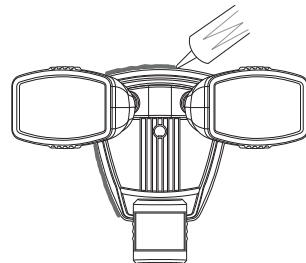

Figure 6
- Caulk around 1-2-Easy Connect™ and mounting surface with silicone weather sealant (see Figure 6).